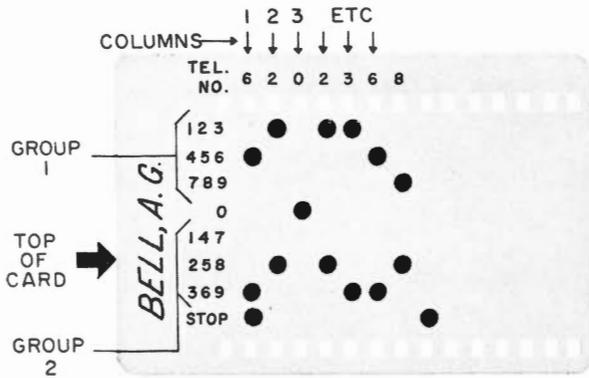

Fig. 5 - 7-Digit Card Coded for Telephone Number 620-2368 (MAin 0-2368).
4.01 It is important that the cards be properly punched and checked for accuracy in order to ensure satisfactory performance. Coding instructions for cards (Fig. 5 and 6) are as follows:
1. Write the name and the desired telephone number in the spaces provided as shown in Fig. 5 and 6. Convert the two exchange letters to numbers by referring to your telephone dial. (For example, use 2 for A or B or C.)
3. In column 1 locate the first digit of the telephone number in group 1 and punch out the perforation with a pencil or ballpoint pen. (In Fig. 5 the number is 6.) In the same column locate the same number in group 2 and punch out the perforation. If not already removed, punch out the STOP in the same column.